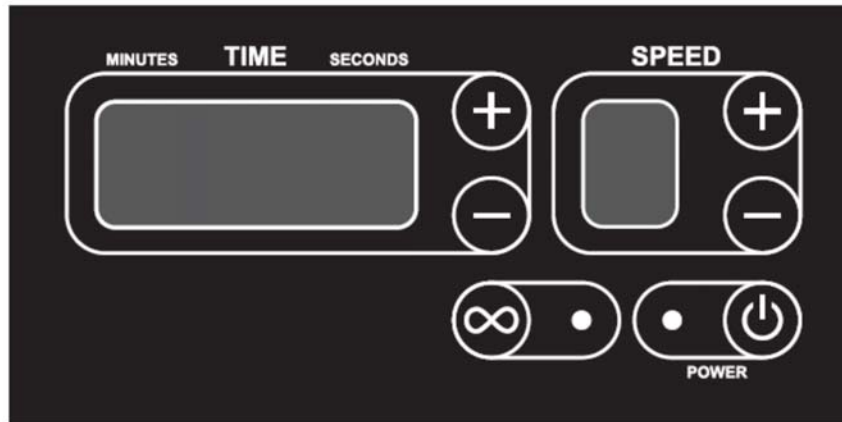

Fig. 2
- On the digital display adjust the timer setting and the blending speed. (Figure 2)
- Increase the blending time by pressing (+) key. (Figure 2)
- Decrease the blending time by pressing (-) key. (Figure 2)
- Increase the blending speed by pressing (+) key. (Figure 2)
- Decrease the blending speed by pressing (-) key. (Figure 2)